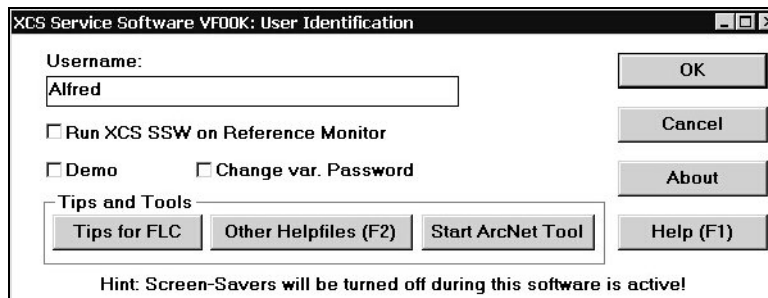

Fig. 1 XCS SSW - 1
- Start the XCS SSW on your service laptop (Fig. 1).